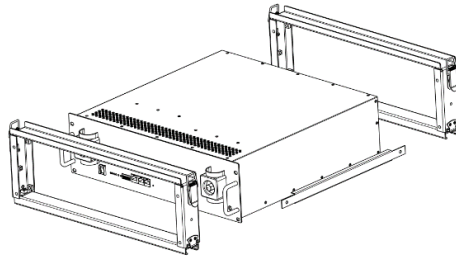

Figure 3-5
2. Complete insert the battery into the bracket as figure3-5, pay attention to pushing the battery to the buckle position.